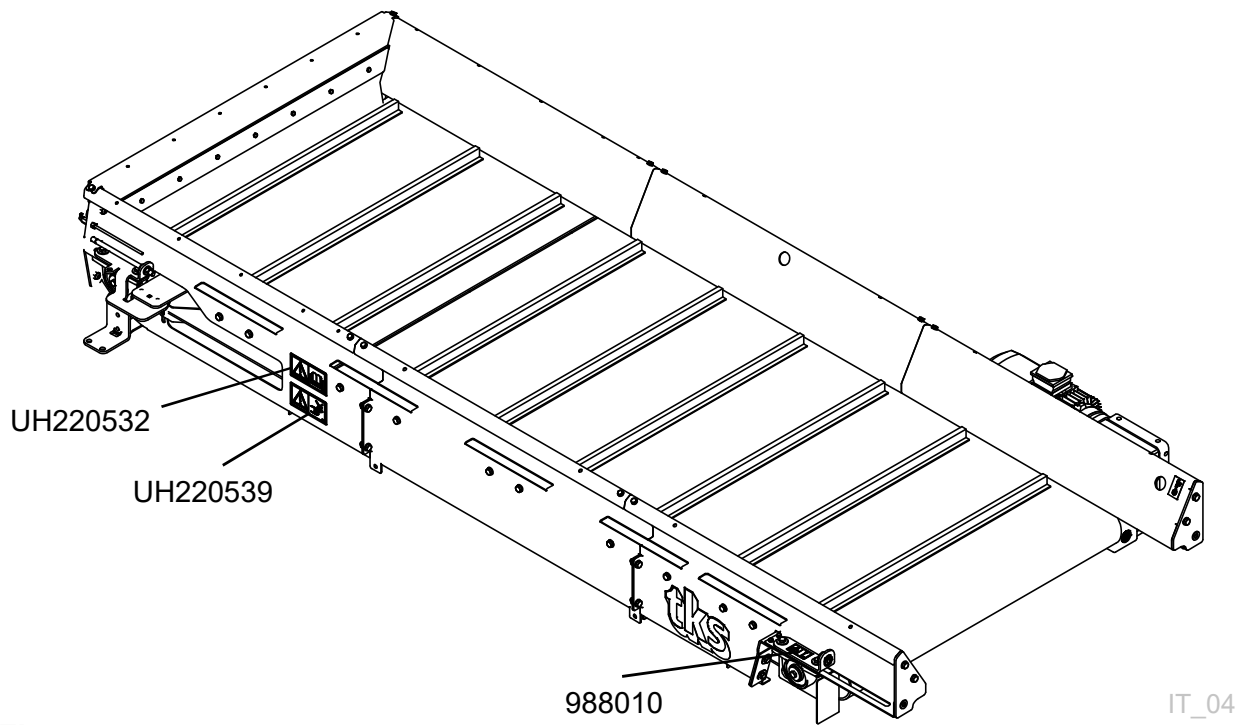

Fig. 4
**Fig. 4** for their location on the machine.